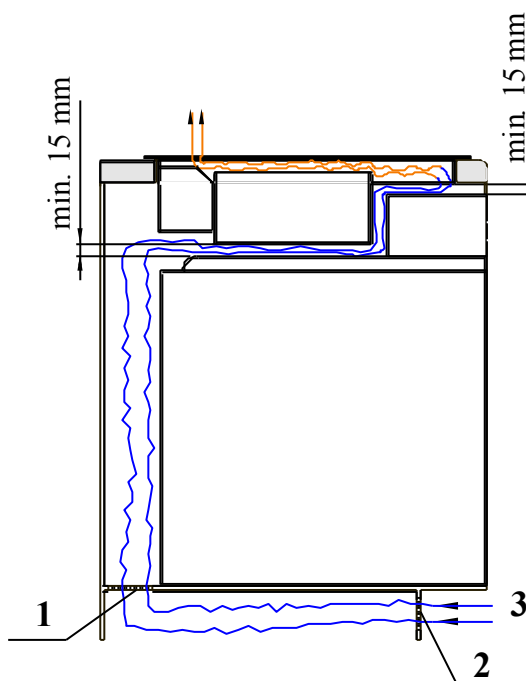

Fig. 5. Hob with oven arrangement
- If the kitchen cabinet has a back wall, it is absolutely necessary to cut out ventilation openings in it, as shown on the drawing fig. 5,